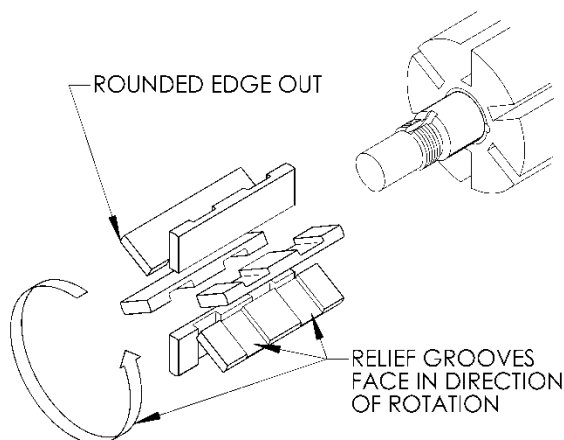

Figure 8 – Vane Installation
3. Turn the shaft by hand until a vane (14) comes to the top (12 o'clock) position of the rotor. Remove the vane.
4. Install a new vane (14), ensuring that the rounded edge is UP, and the relief grooves are facing towards the direction of rotation. See Figure 8.
10. Remove the vanes (14) and push rods (77) from the rotor and shaft assembly. Inspect for wear and damage, and replace as follows:
- b. Partially install the non-driven end of the rotor and shaft (13) into the open side of the pump casing (12).
- c. Leave part of the rotor outside of the casing (12) so that the bottom vanes (14) can be installed and held in place as the push rods (77) are installed in the push rod holes of the rotor. Insert the new vanes into the rotor slots with the rounded edges outward, and the vane relief grooves facing TOWARDS the direction of rotation. See Figure 8.
- d. After the bottom vanes and push rods are installed, carefully insert the rotor and shaft (13) fully into the casing (12) and through the installed head (20).
- e. Install the remaining vanes (14) into the top positions of the rotor.
11. Install the inboard head with O-ring (72), mechanical seal (153), disc (71) and bearing (24) as instructed in steps 3 through 8.
12. Rotate the shaft by hand to engage the mechanical seal drive tangs, and to test for binding or tight spots. If the rotor does not turn freely, lightly tap the rims of the heads with a soft faced mallet until the correct position is found. Install all of the remaining head capscrews (21) for each head (20) and uniformly torque to 30 lbs ft (40.7 Nm).